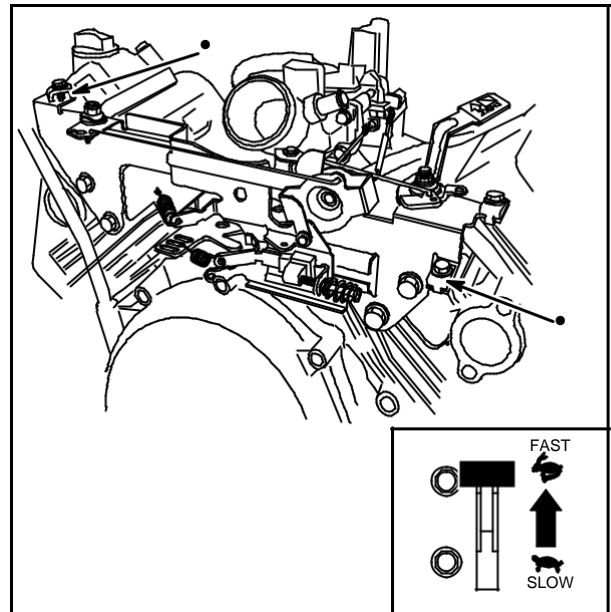

Fig. 48
Loosen control casing clamp screw (1) at governor control bracket, **Fig. 48**.
Move speed control lever to FAST position (inset, **Fig. 48**).